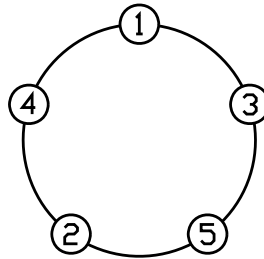

Figure 2-6. Wheel Torque Pattern
2. Tighten wheel nuts in the sequence shown in Figure 2-6.